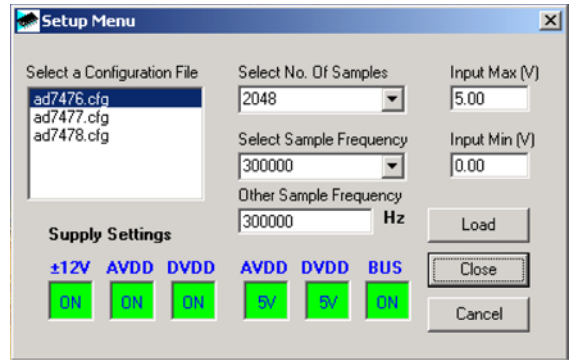

Figure 5. The Setup Menu
- **Setup Menu.** Select this option to display the Setup Menu as shown in Figure 5.
The Setup Menu, shown in Figure 5, allows you to load the required configuration file for the evaluation board. Once the configuration file is loaded, the software acquires detailed information about the AD7476/AD7477 evaluation board and the device connected to the EVAL-CONTROL-BRD2. This includes information such as the number of bits, maximum sampling rate, output coding, maximum analog input, and power supply requirement.